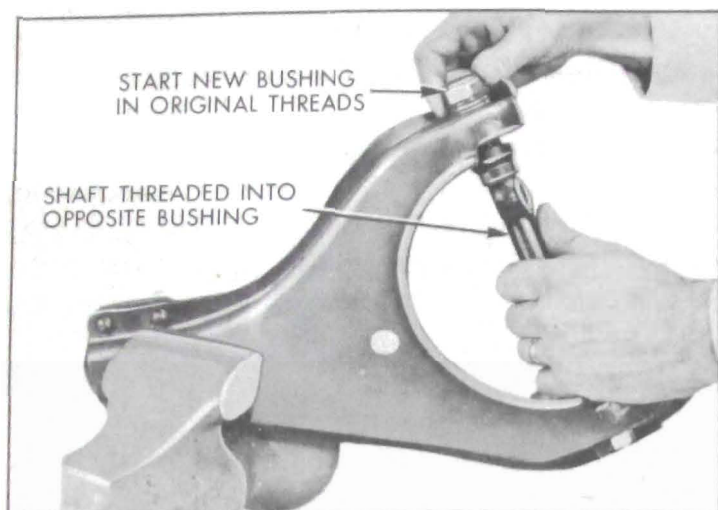

Figure 7-10—Upper Control Arm Bushing Replacement
5. Start second bushing into original threads of arm with shaft threaded into opposite bushing. See Fig. 7-10.